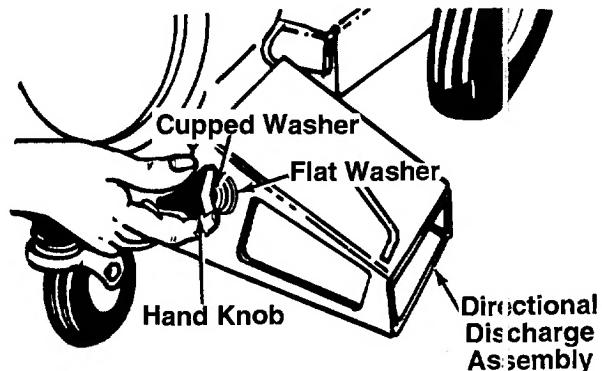

FIGURE 14.
6. Place the directional discharge assembly over chute opening. Secure with two hand knobs, cupped washers and flat washers. The cuffed side of washers go against the flat washers. See figure 14.